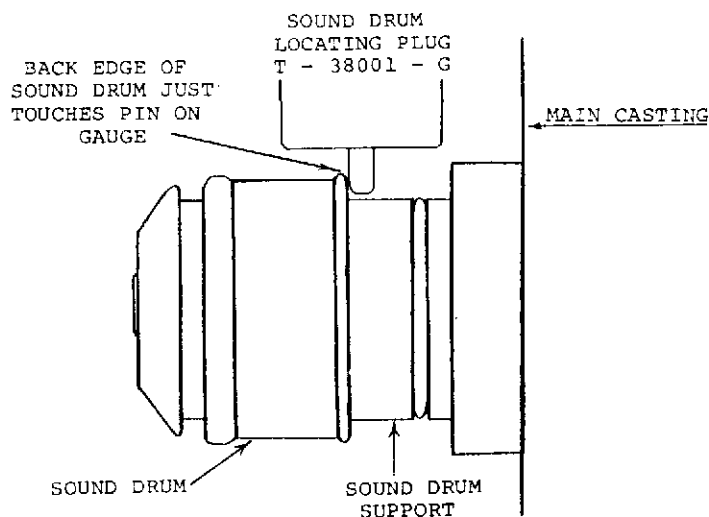

Figure 4-19. SOUND DRUM LATERAL POSITIONING
4. Insert Sound Drum in Sound Drum Support and push this entire assembly toward Main Casting until back edge of Sound Drum just touches Pin on Locating Plug (Figure 4-19). Be sure to maintain centering accomplished in Step 3 while making this adjustment.